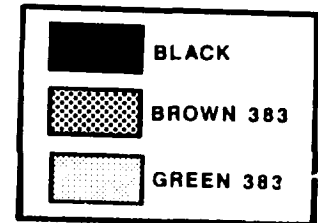
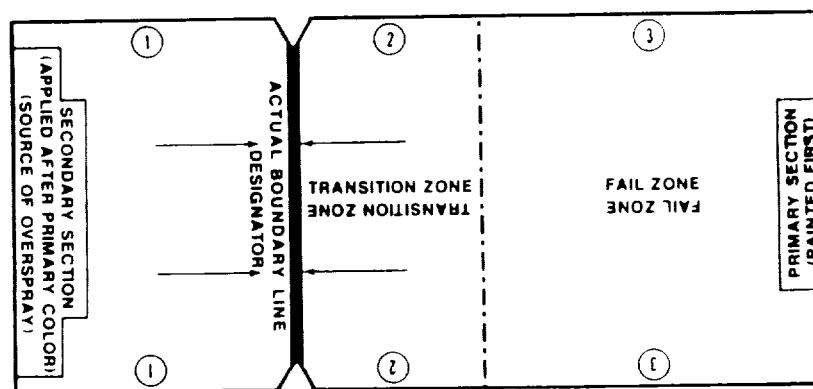

Figure 4-2. Markings on Camouflaged Equipment.
Figure 4-3. Overspray Gauge
Markings on CARC camouflaged equipment will be CARC in colors designated in figure 4-2.
- CPP designs, including inspection worksheet (para 4-3) and overspray gauge (fig 4-3)
- One (1) 6-foot steel measuring tape, graduated in sixteenths (or thirty-seconds) of an inch
- One (1) 6-foot steel measuring tape, graduated in tenths of an inch
- Overspray gauge (figure 4-2)
In this level of inspection, the borders are examined to ensure color definition. The contrast between color areas is key to CPP effectiveness, and, for this reason, overspray of one color into another color area must be minimized to a 1-1/2 inch tolerance. An overspray gauge (figure 4-3) is used to determine whether overspray on the applied CPP is within this narrow tolerance.
b. *Overspray Gauge.* The overspray gauge (figure 4-3) is a card-like, transparent sheet of plastic with white markings (to contrast with camouflage colors) which indicate the tolerance, or 'transition' zone. The gauge is overlaid on the border area; the actual border line is then located and aligned under the gauge boundary line DESIGNATOR, and the overspray is examined. When overspray extends into the 'FAIL ZONE', the failure location is noted by marking the notches at both ends of the gauge boundary line DESIGNATOR with chalk or soapstone.
- (1) Lay overspray gauge over border, so that FAIL ZONE lays over color area applied first.
- (2) Align DESIGNATOR, or boundary line marking, as close as possible to fog/boundary transition area, so that it is just short of overlapping spray, but so that no primary color can be seen in secondary section.
- (3) Examine overspray. If it extends into FAIL ZONE, record Level II failure as follows: